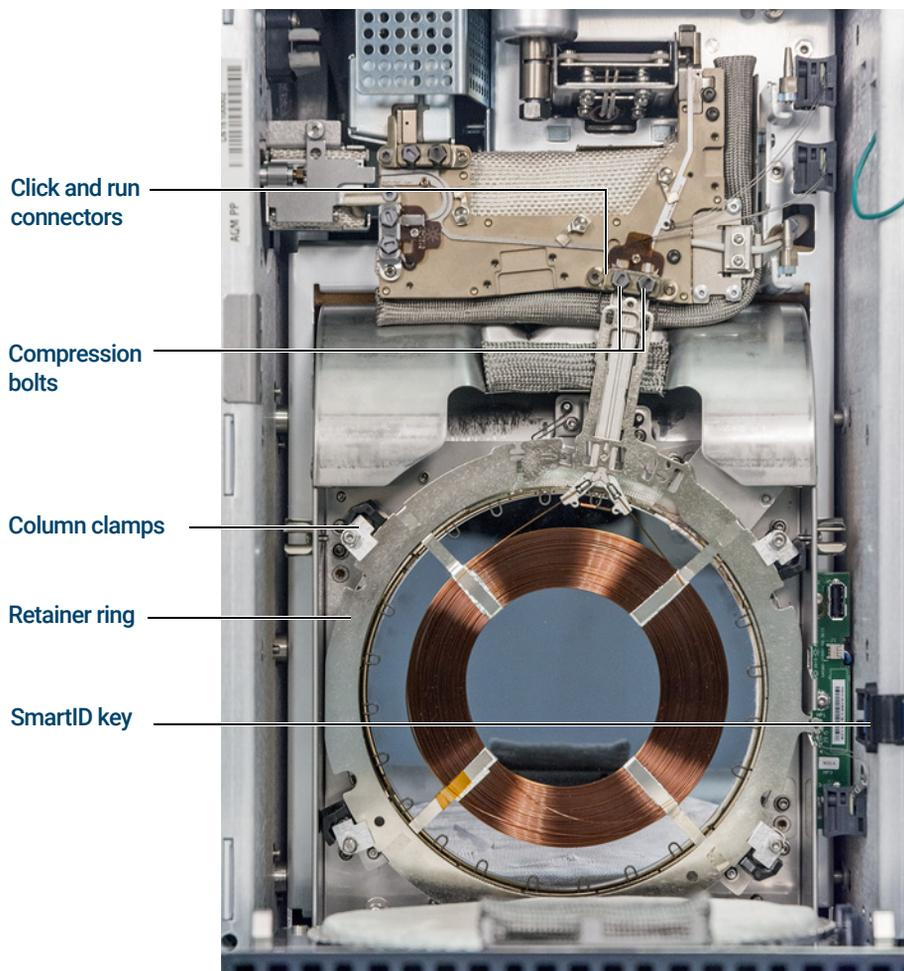

Figure 10. 9000 GC column and related parts
- 7 Using the Intuvo torque driver, rotate all four column clamps off the column's retainer ring. (See **Figure 10.**)